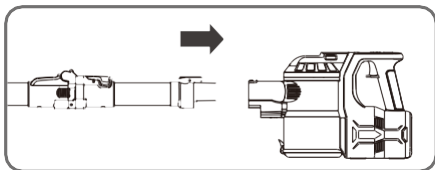

Figure 1
- Push the end of the aluminum tube horizontally into the suction port of the main housing to make sure it is connected and not loose. Installation is successfully completed once a "click" is heard. (figure 1)